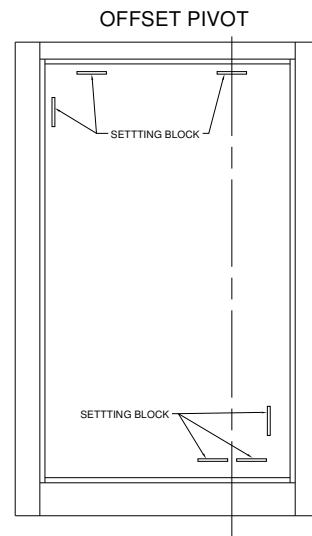

Figure 18:
3. Insert the setting blocks (red bag) according to the image that more closely resembles the product (Figure 18 or 19).
2. Insert the setting blocks (red bag) according to the image that more closely resembles the product (Figure 18 or 19).